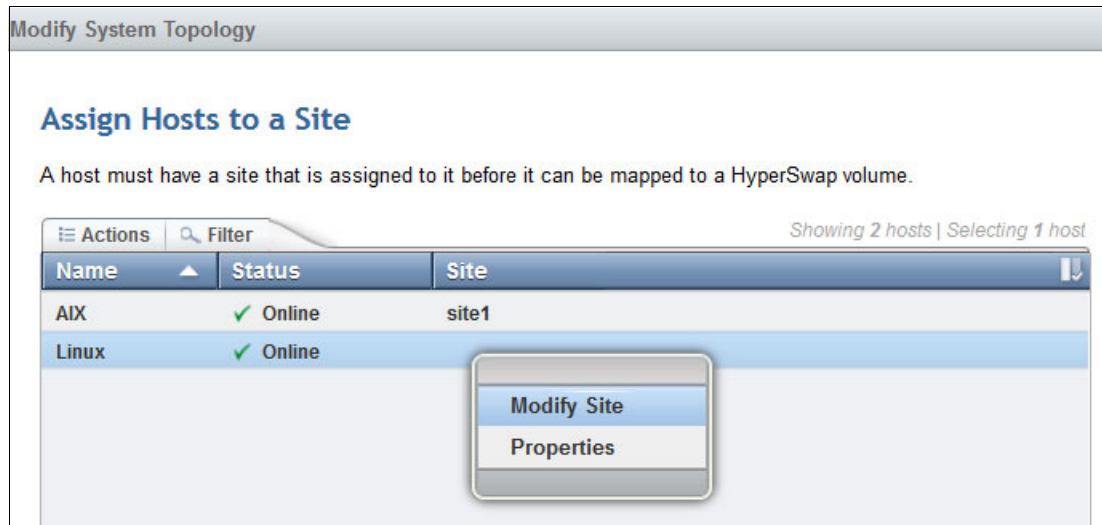

Figure 11-15 Optional host site attributes
4. Assign hosts to a site (Figure 11-15).